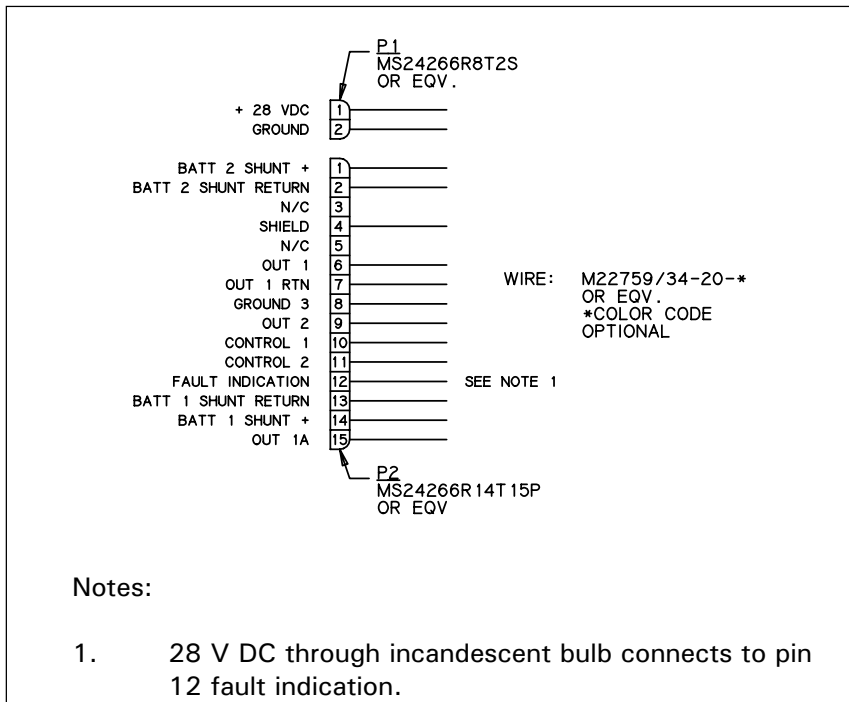

Figure 5.1: Test Harnesses
- Test harnesses (See Fig 5.1)